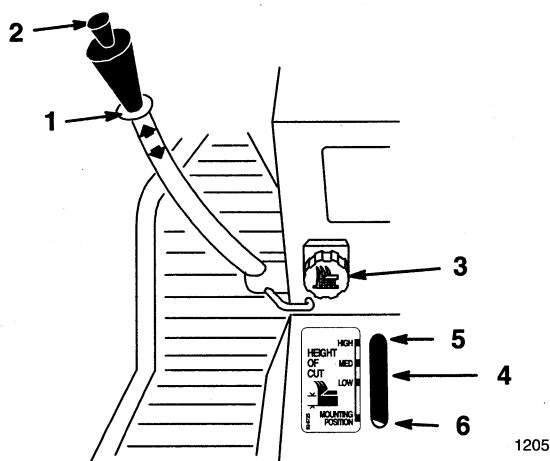

Figure 26
The attachment lift lever (Fig. 26) is used to raise and lower various attachments.
The Dial-A-Height control (Fig. 26) is used to limit the downward travel of the attachment. The Dial-A-Height knob is rotated to change the location of this stop, up or down.
1. Raise the attachment lift lever: Refer to Raising Attachments. In the raised position the Dial-A-Height knob (Fig. 26) can be rotated to change the stop location. Turn clockwise to raise and counterclockwise to lower the height of the attachment.
2. The Dial-A-Height indicator (Fig. 26) will show the change, high to low, in attachment lift height as adjustment is made.